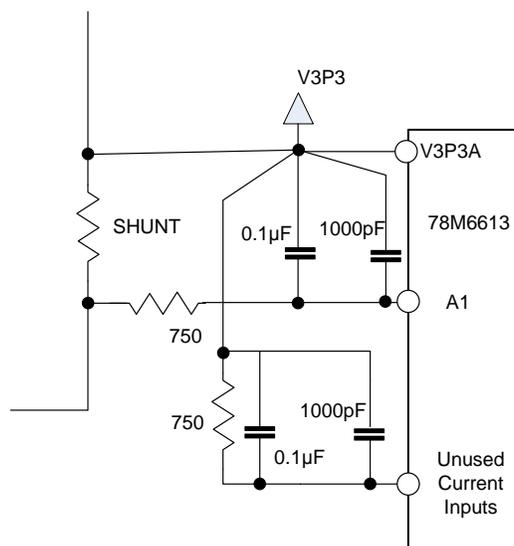

Figure 4: Shunt Connections and Filtering
- Terminate unused current input to V3P3 as shown in Figure 4.